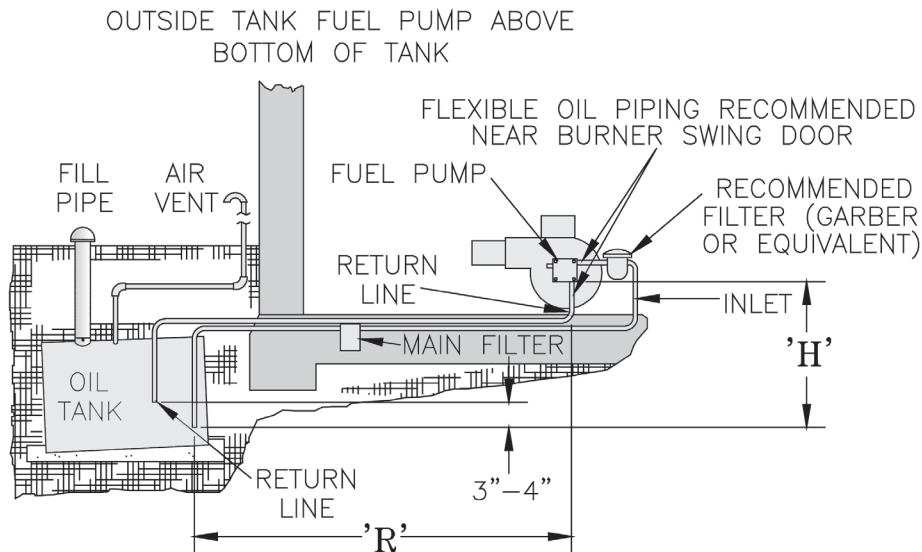

Figure 31: Two Pipe Oil Lines
- For two piped systems, where more lift is required, the two-stage fuel unit is recommended. Table 8 (two-stage) and Table 9 (single-stage) show allowable lift and lengths of 3/8 inch and 1/2 inch OD tubing for both suction and return lines. Refer to Figure 31.